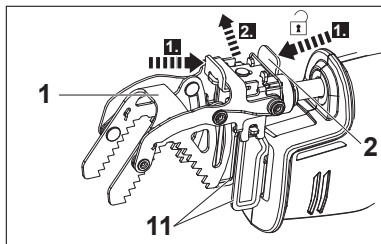

Fig. 11
1. To remove, press the clamp lever (2) and pull off the spiked bracket (1) from the bracket rail (11) (Fig. 11).